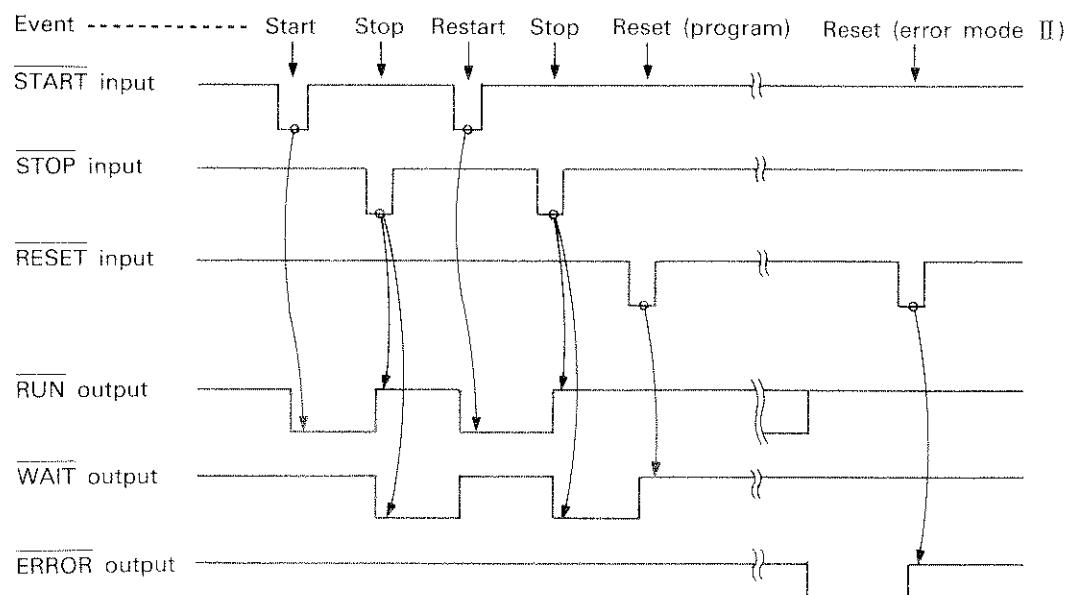

Fig. 5.3.5.A Dedicated I/O Timing
- (4) Output from the dedicated outputs are the signals corresponding to the robot operating conditions (RUN, WAIT, and ERROR outputs). These signals are output in either setting, whether in external operation or front control switch operation mode. Fig. 5.3.5.A shows the dedicated I/O timing.